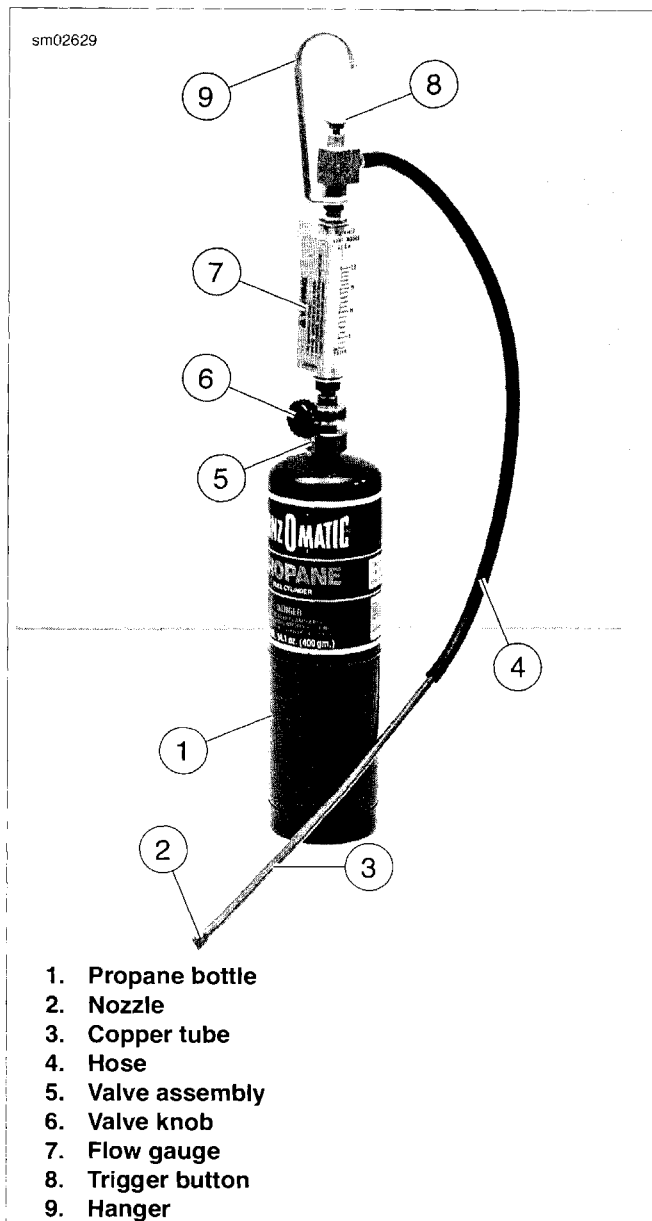

Figure 4-87. Leak Tester
1. See Figure 4-87. Make sure valve knob (6) is closed (fully clockwise).
2. Screw valve assembly (5) onto propane bottle (1).
1. See Figure 4-87. Press and hold trigger button (8).
2. Slowly open valve knob (6) until pellet in flow gauge (7) rises to between 5 and 10 SCFH on gauge.